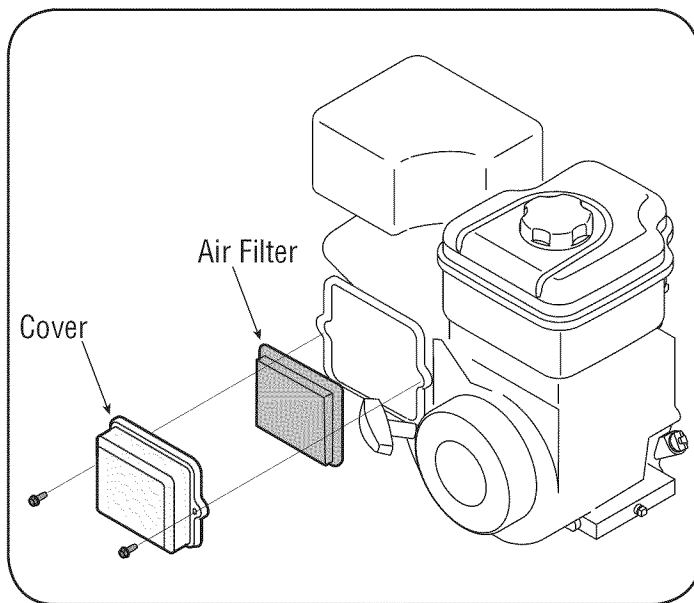

Figure 12
2. Open cover and remove air filter. See Figure 12.